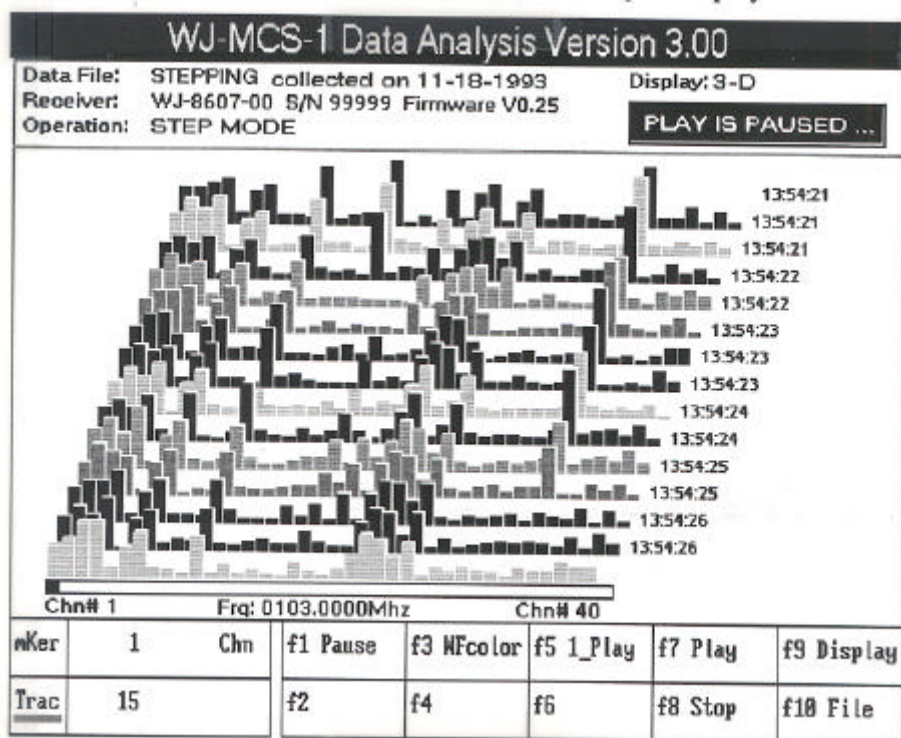

Figure I-36. DATA ANALYSIS Menu (SWEEP or Step Mode)
The SWEEP/STEP MODE Signal Activities displays shown in **Figure I-36** provide the operator with:
- a. "3-D" - (three-dimensional, shown in **Figure I-36**) uses the x-axis for frequency, the y-axis for signal amplitude, and the z-axis for time. The number of traces displayed depends on the "Trac" entry provided by the operator. SWEEP SECTOR mode does not allow "3-D" display.